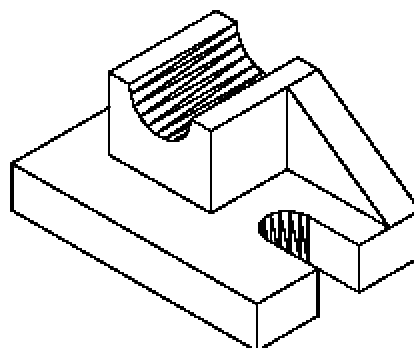

Figure 24-44 Solid aligned with the base
11. Move it on the base using the endpoint as shown Figure 24-44.